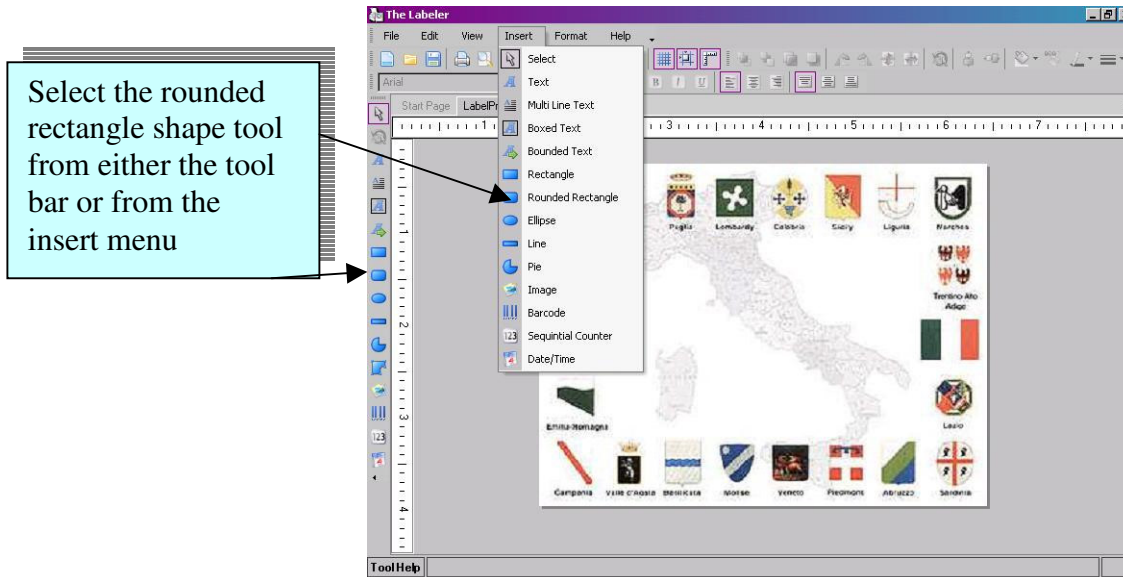

Figure 3.5.2.1: Inserting Rounded Rectangle Shape
1. Click on the rounded rectangle shape tool  located on the tool bar, or you can find it in the insert menu (see Figure 3.5.2.1).